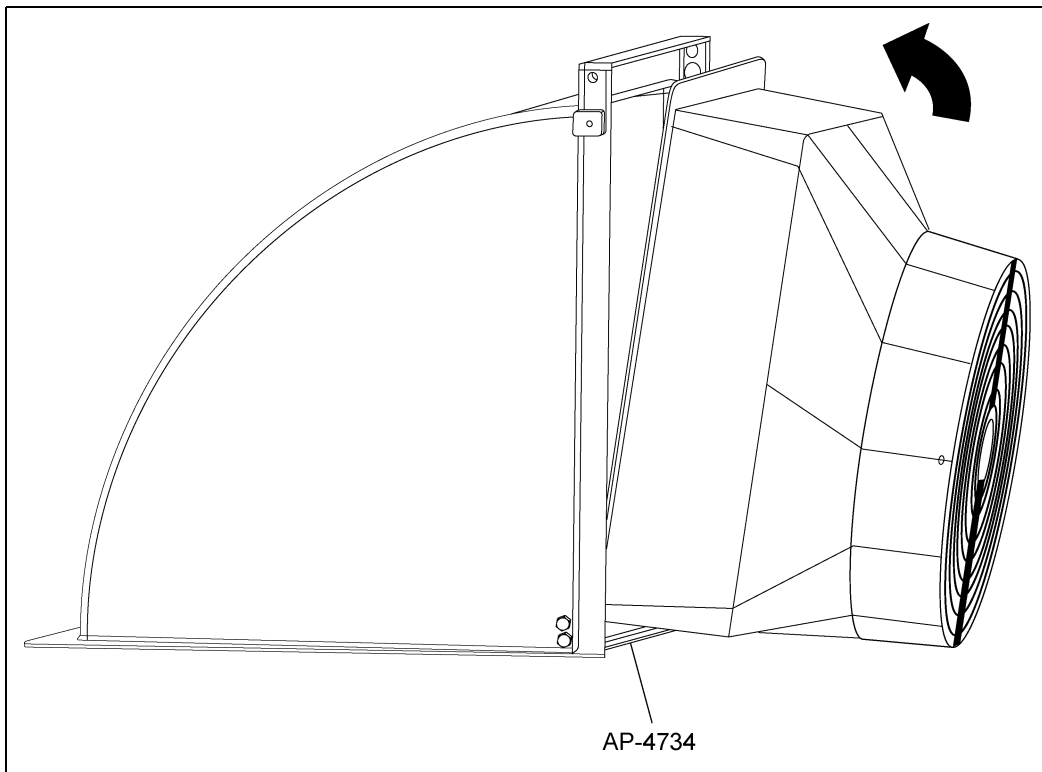

Figure 2H
Step 5: Insert the bottom flange of the fan into the channel of the bracket AP-4734. (See Figure 2H.)